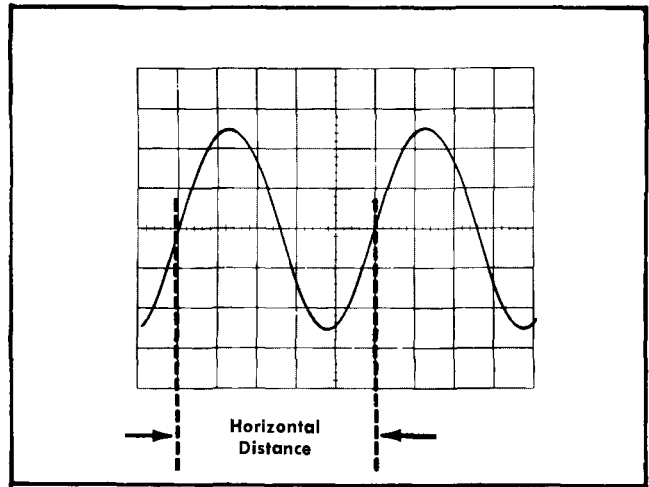

Fig. 2-11. Measuring the time duration between points on a waveform.
4. Set the TIME/DIV switch to the fastest sweep rate that displays less than eight divisions between the time measurement points (see Fig. 2-11). (See the topic entitled Horizontal Sweep Rate in this section concerning non-linearity of first and last divisions of display.)
Example. Assume that the distance between the time measurement points is five divisions (see Fig. 2-11) and the TIME/DIV switch is set to .1 MSEC with the magnifier off. Using the formula:
Example. The frequency of the signal shown in Fig. 2-11, which has a time duration of 0.5 milliseconds is: